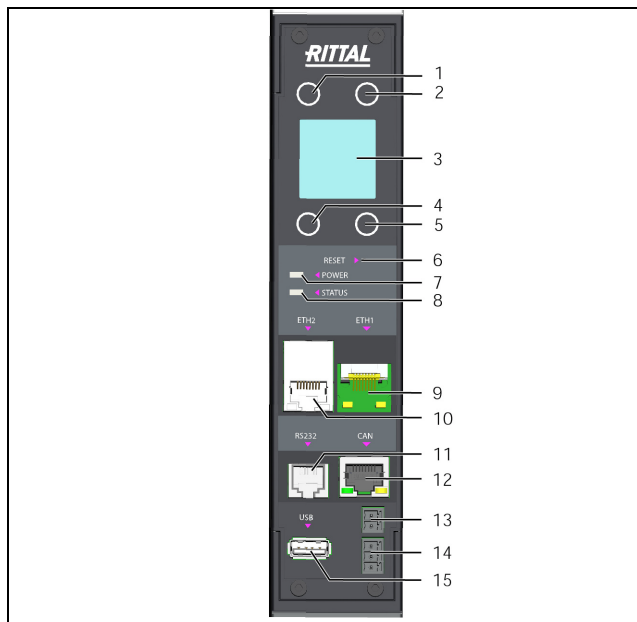

Fig. 22: Control and display elements and connections of the PDU metered/metered plus/switched/managed/RCM
The control and display elements are shown in fig. 22. The display direction and the assignment of the four keys at the side of the display will depend on the installation direction of the PDU. The keys are assigned depending on the position of the PDU/RCM. The assignment changes automatically when the PDU/RCM is rotated. The legend for fig. 22 shows the key assignment appropriate for the figure. The actual assignment of the keys is shown correctly on the display.
A multi-LED for status display is integrated into the front of the PDU (fig. 22, item 8). Further LEDs are also located on the CAN bus connection (fig. 22, item 12) and on the Ethernet interfaces (fig. 22, item 9 and item 10).
The individual menu points are selected using the "Down" (fig. 22, item 5) and "Up" arrows (fig. 22, item 2). You can switch between the individual menu levels with the "Esc" (fig. 22, item 1) and "Enter" keys (fig. 22, item 4).